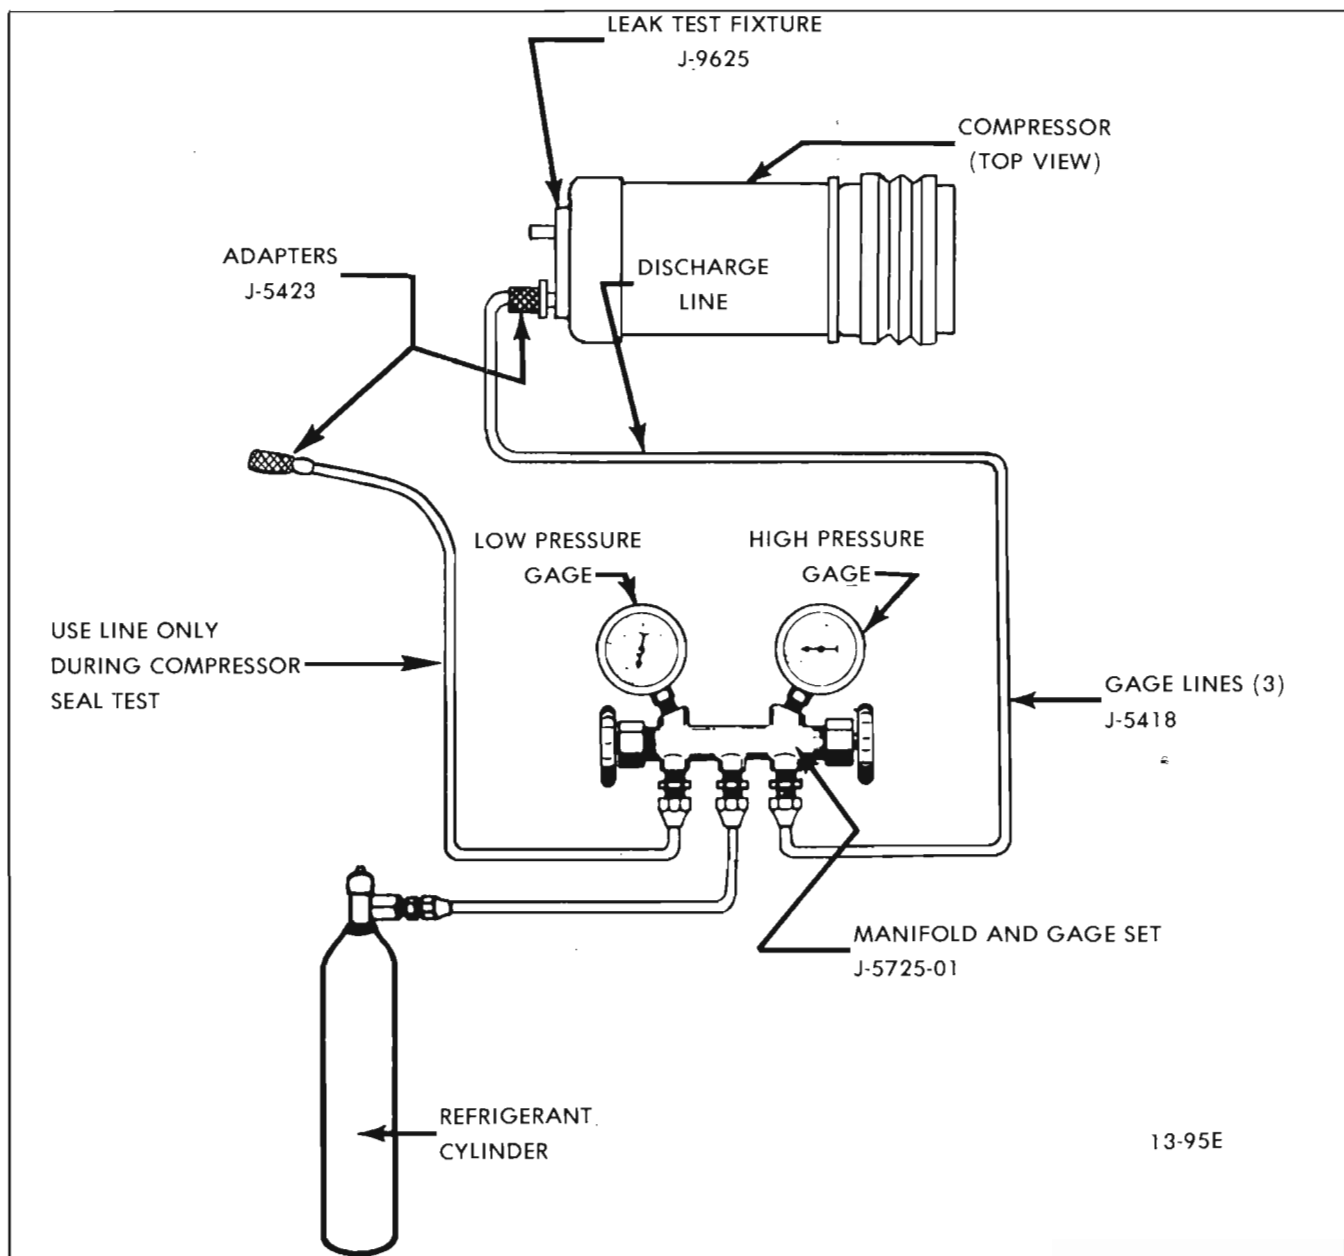

Figure 13-69 Compressor Internal Leak Test
1. After the shaft seal pressure test (ref. Par. 13-19) has been performed, change the test circuit to the configuration shown in Figure 13-69.